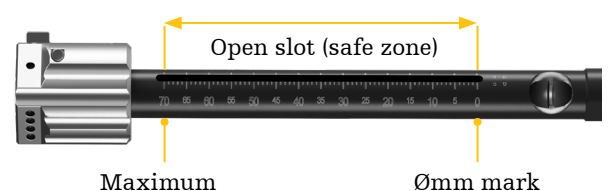

Figure 109
- If maximum distraction is required, the tip of the threaded rod should start at the 0mm mark at the end of the open slot. For maximum compression, the tip of the threaded rod should start at the maximum graduation measure at the other end of the open slot. **(Figure 109)**
The threaded-rod end should remain within the safe zone, which is defined as the length of the graduated tube’s open slot. **(Figure 109)**